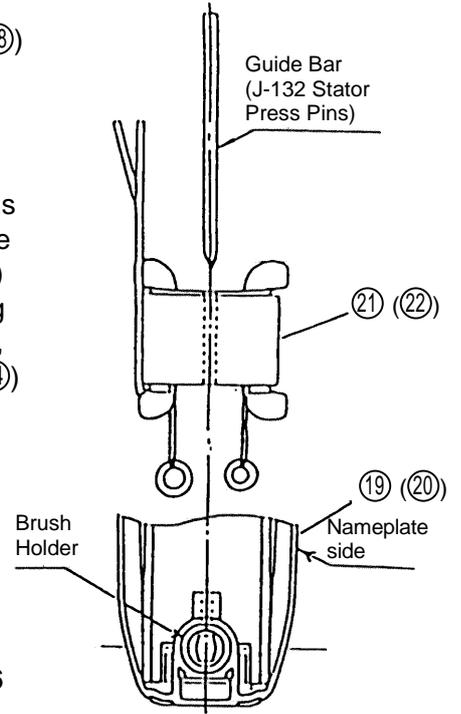

Fig. 11
(4) Reassemble the Stator (21) (22):
As illustrated in Fig. 11, insert a guide bar (the J-132 Stator Press pins [Special Repair Tool, Code No. 970911] are recommended) to ensure that the screw holes of the Stator (21) (22) and Housing Ass'y (19) (20) are properly aligned, and press fit the Stator (21) (22) into the Housing Ass'y (19) (20). When press fitting of the Stator (21) (22) is completed, connection between the Stator (21) (22) and the Brush Holders (33) (34) is automatically accomplished.
(5) Lubrication: